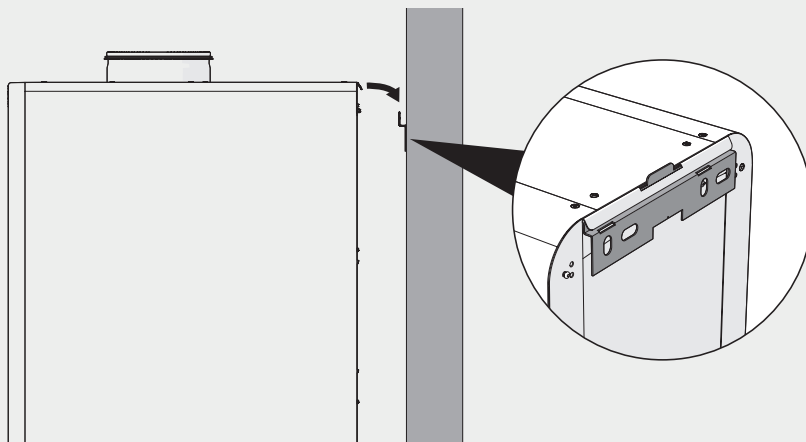

Figure 10 Hanging the GreenComfort.
6. Hang the GreenComfort on the bracket (figure 10).